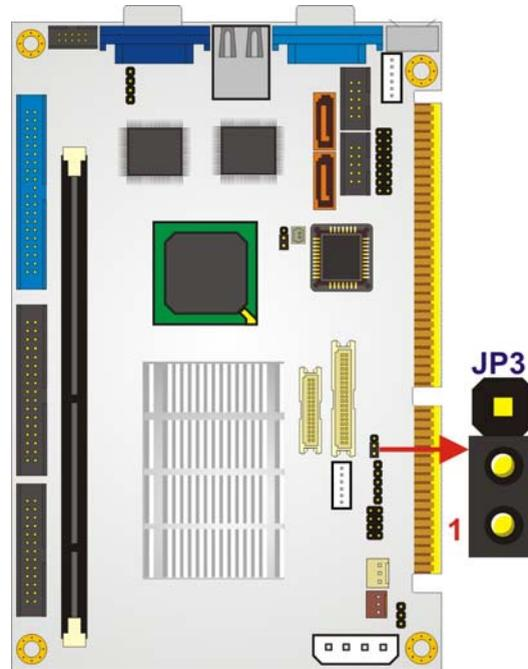

Figure 5-5: LVDS Voltage Selection Jumper Pinout Locations
- Jumper Location:** See Figure 5-5
The TTL and LVDS Voltage Selection jumper location is shown in **Figure 5-5**.